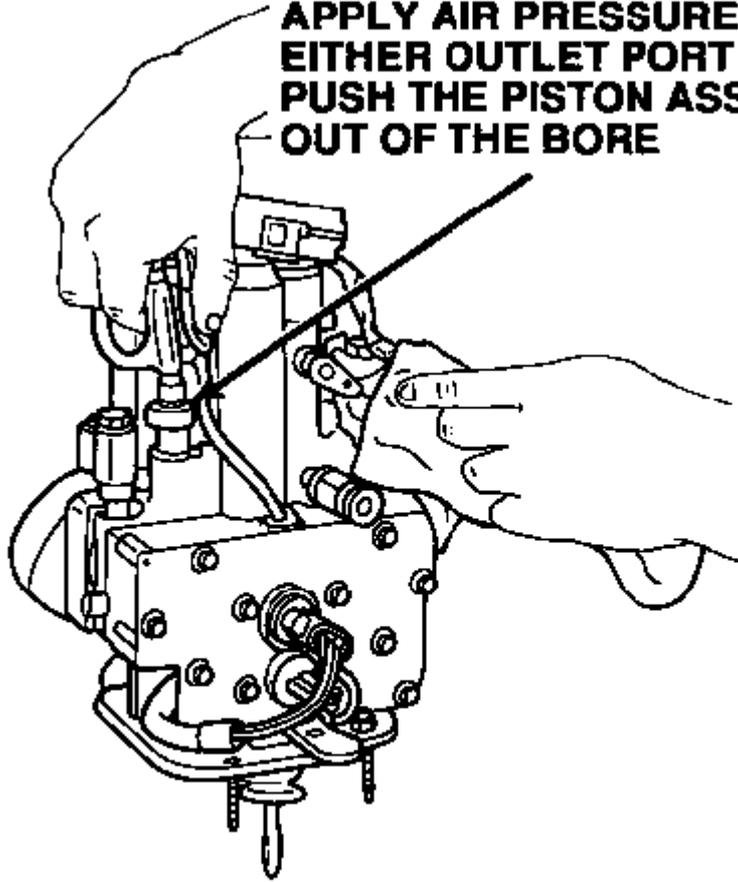

Figure 10
11. Remove the hydraulic assembly from the vise and place, stud side down, on a bench on a lint free cloth (Figure 10).